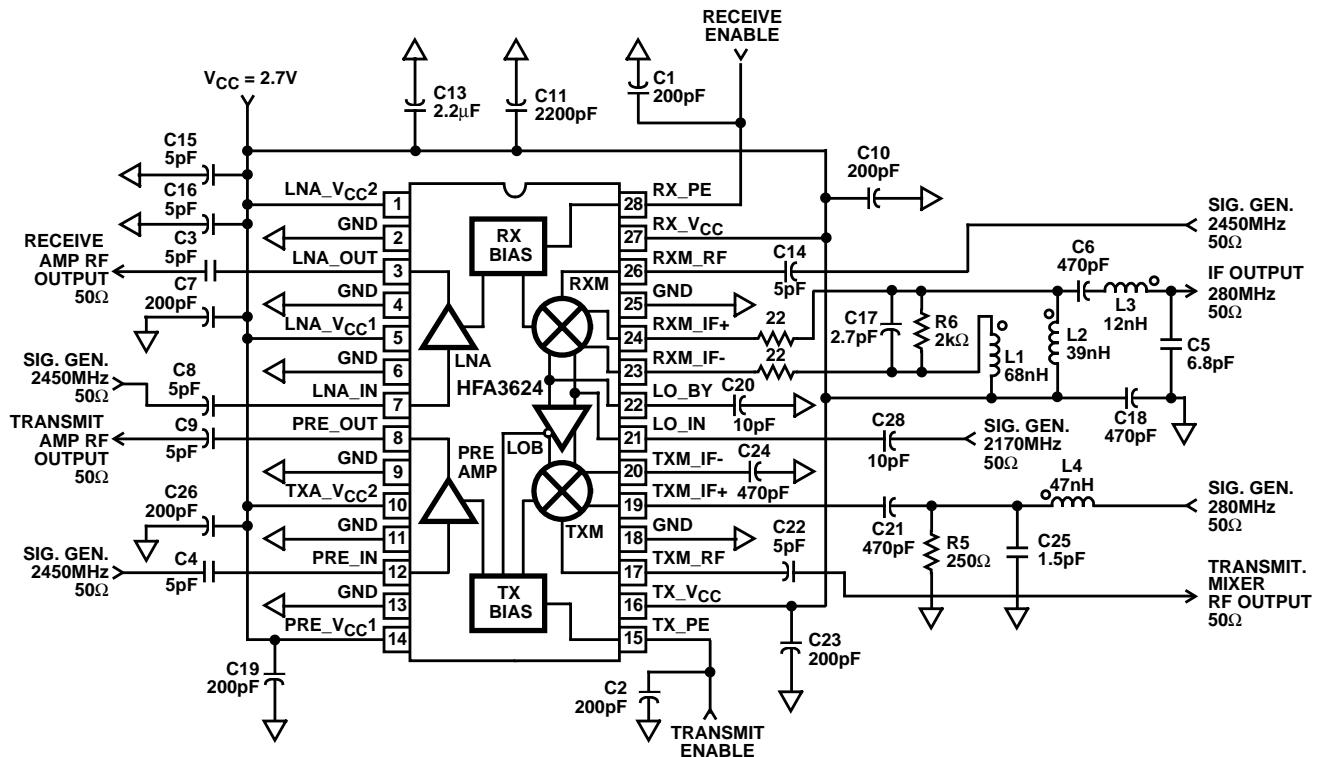

FIGURE 5. OPTIMIZED LAB EVALUATION CIRCUIT
- See Figure 5 Test Circuit for 50Ω IF matching network component values.
- Transmit mixer measured with Impedance Transform Network 250Ω at device to 50Ω at the source. Refer to Figure 5, pin 19.
- Implied limit, production measurement uses 50Ω termination at pin 19 ($RS_{IF} = 50\Omega$). Typical transmit conversion gain increase of 5.5dB with application circuit Figure 5 ($RS_{IF} = 250\Omega$).
- Enable/Disable Time Specifications are tested with the external component values shown in the Figure 5 Test Circuit, with an IF frequency of 280MHz. Specifically the AC coupling capacitors on the TXM_IF+ and TXM_IF- pins are biased up to operating voltage from a fixed internal current source at power up. Increasing these AC coupling capacitors above 1000pF will slow Enable Time proportionately.
NOTE: Transmit mixer measured with Impedance Transform Network 250Ω at device to 50Ω at the source. Refer to Figure 5, pin 19.
NOTE: Transmit mixer measured with Impedance Transform Network 250 Ω at device to 50 Ω at the source. Refer to Figure 5, pin 19.